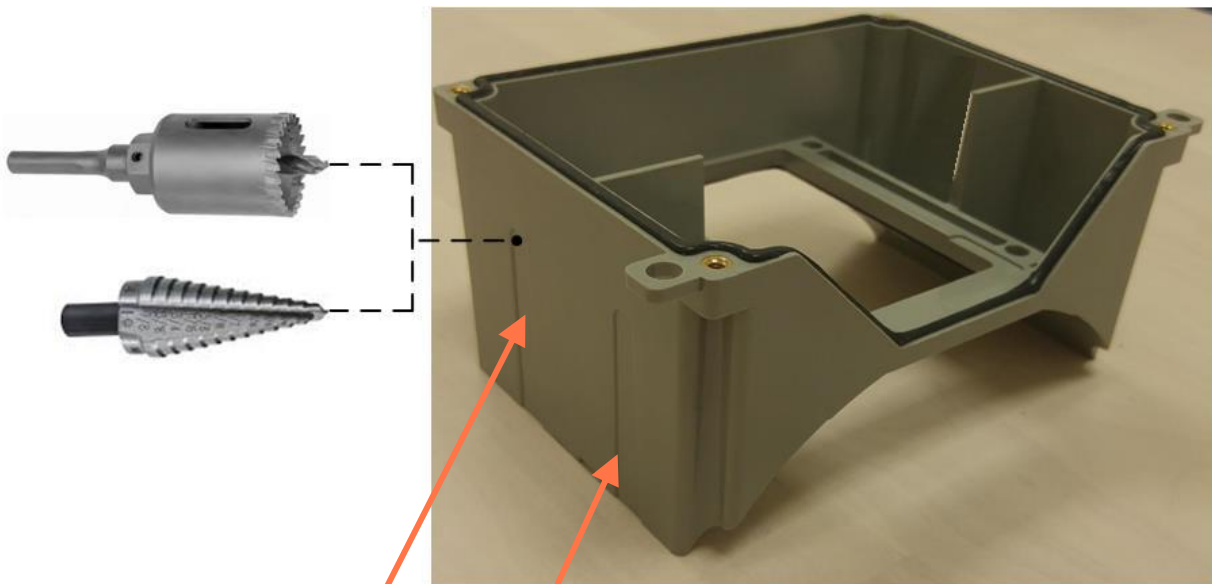

FIGURE 18
1. Drill the conduit hole for the power raceway as shown in **FIGURE 18**. The conduit entry be used on either side of the junction box. A 1/4" pilot bit at the top of the power groove locates the center of a 1/2", 3/4" or 1" trade size conduit opening. Confirm the field wiring terminals are de-energized using an appropriate meter.